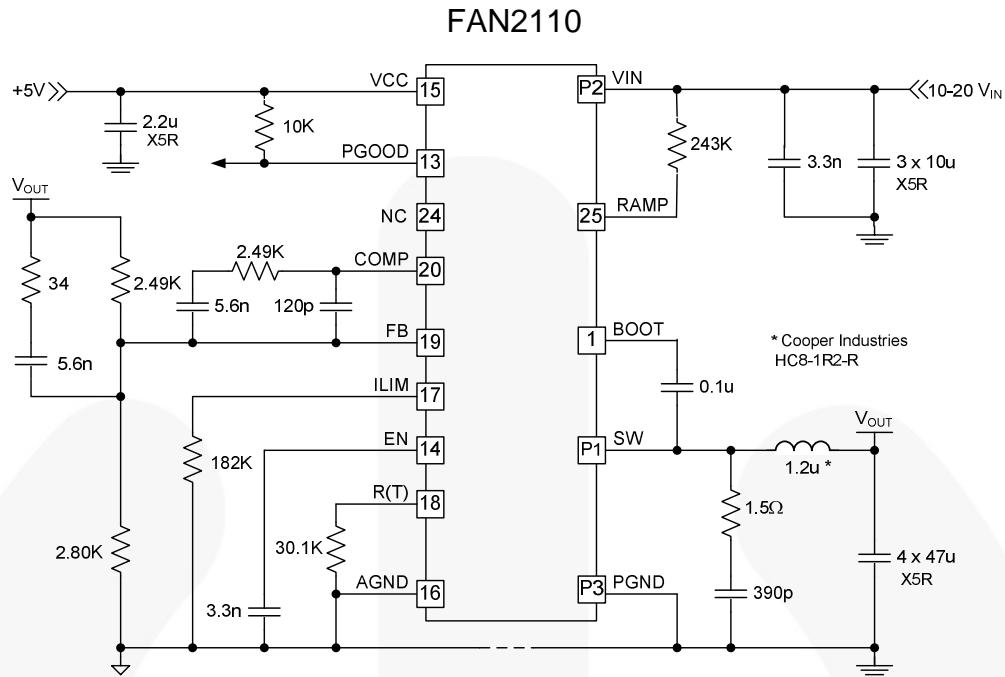

Figure 10. Application Circuit: 1.5V_{OUT}, 10A, 500KHz (10V-20V_{IN})
Typical operating characteristics using the circuit in Figure 10. $V_{IN}=12V$, $V_{CC}=5V$, $T_A=25^{\circ}C$, unless otherwise specified.
4. Circuit values for this configuration change in Figure 10.
Typical operating characteristics using the circuit in Figure 10. $V_{IN}=12V$, $V_{CC}=5V$, $T_A=25^\circ C$ unless otherwise specified.
5. Circuit values for this configuration change in Figure 10.